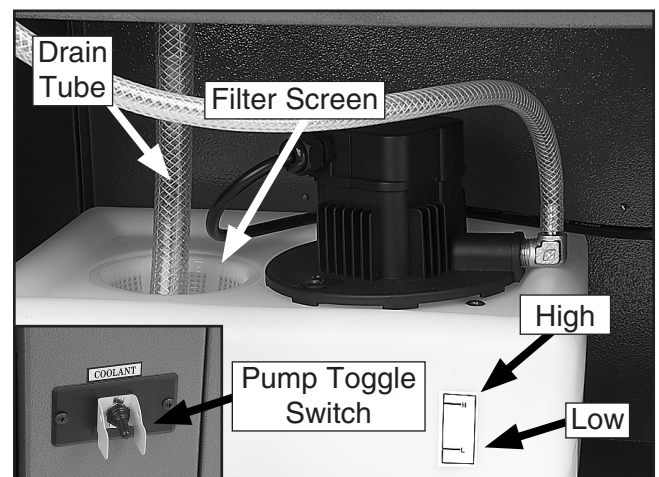

Figure 28. Filter screen and hose.
2. Place the filter screen and drain tube in the reservoir as shown in **Figure 28.**